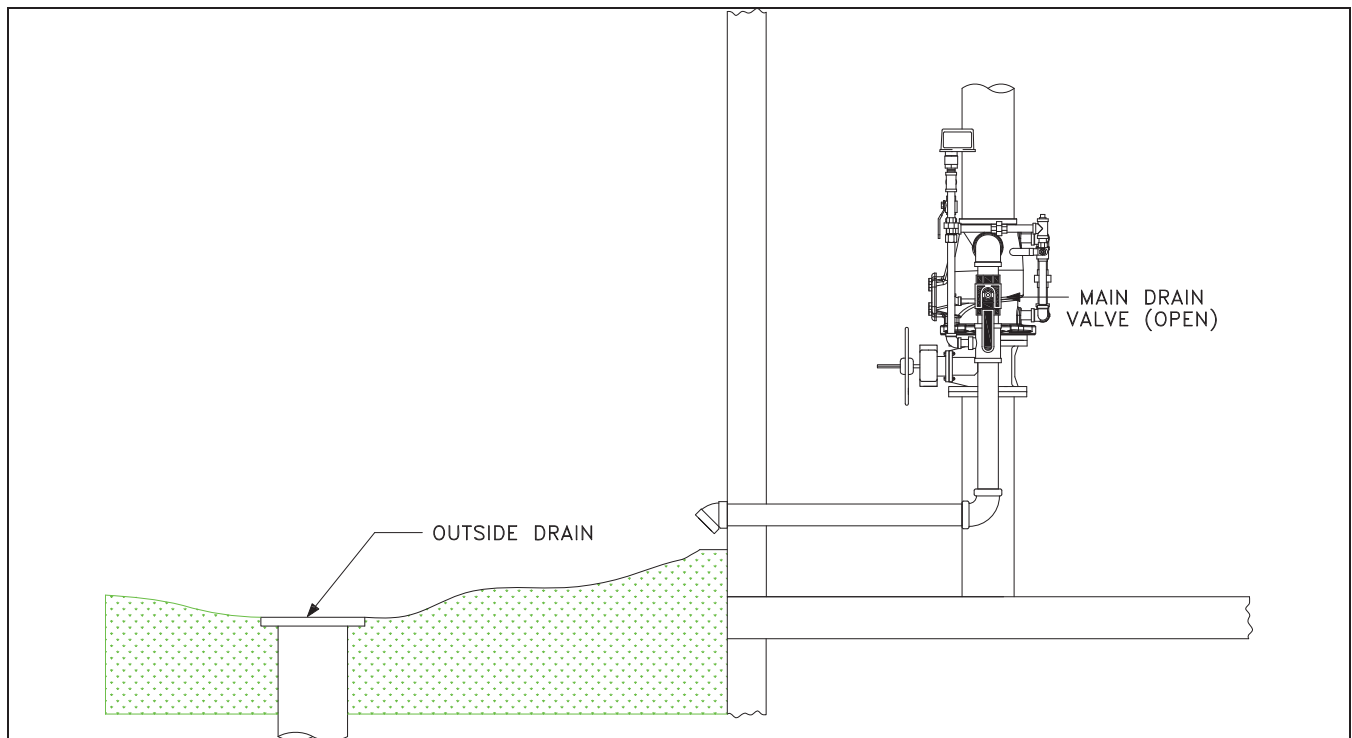

Figure 39
3. Verify that adequate drainage is provided for full flow from the main drain outlet (Figure 39).